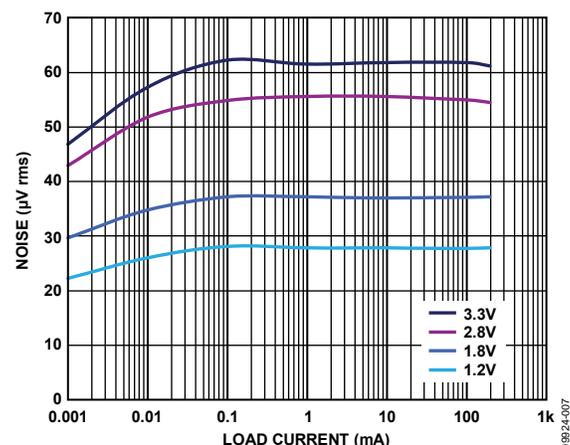

Figure 7. RMS Noise vs. Load Current and Output Voltage Plot (ADP223)
- Total integrated noise over some bandwidth expressed as µV rms (see Figure 7)
Analog Devices, Inc., data sheets specify total integrated noise over a bandwidth of 10 Hz to 100 kHz. Figure 7 shows the relationship between the total rms noise for the ADP223 for various output voltages and load currents over a bandwidth of 10 Hz to 100 kHz.